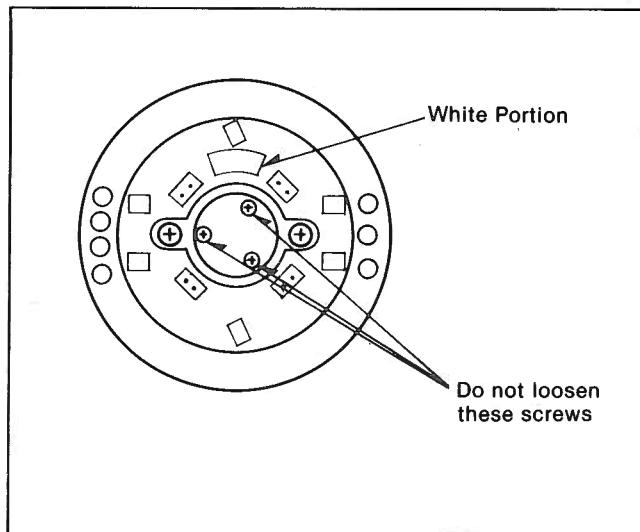

Figure M9
2. Do not loosen the 3 small screws on the top of the cylinder as shown in Figure M9. If these 3 screws are loosened, Cylinder motor is broken and not restored.